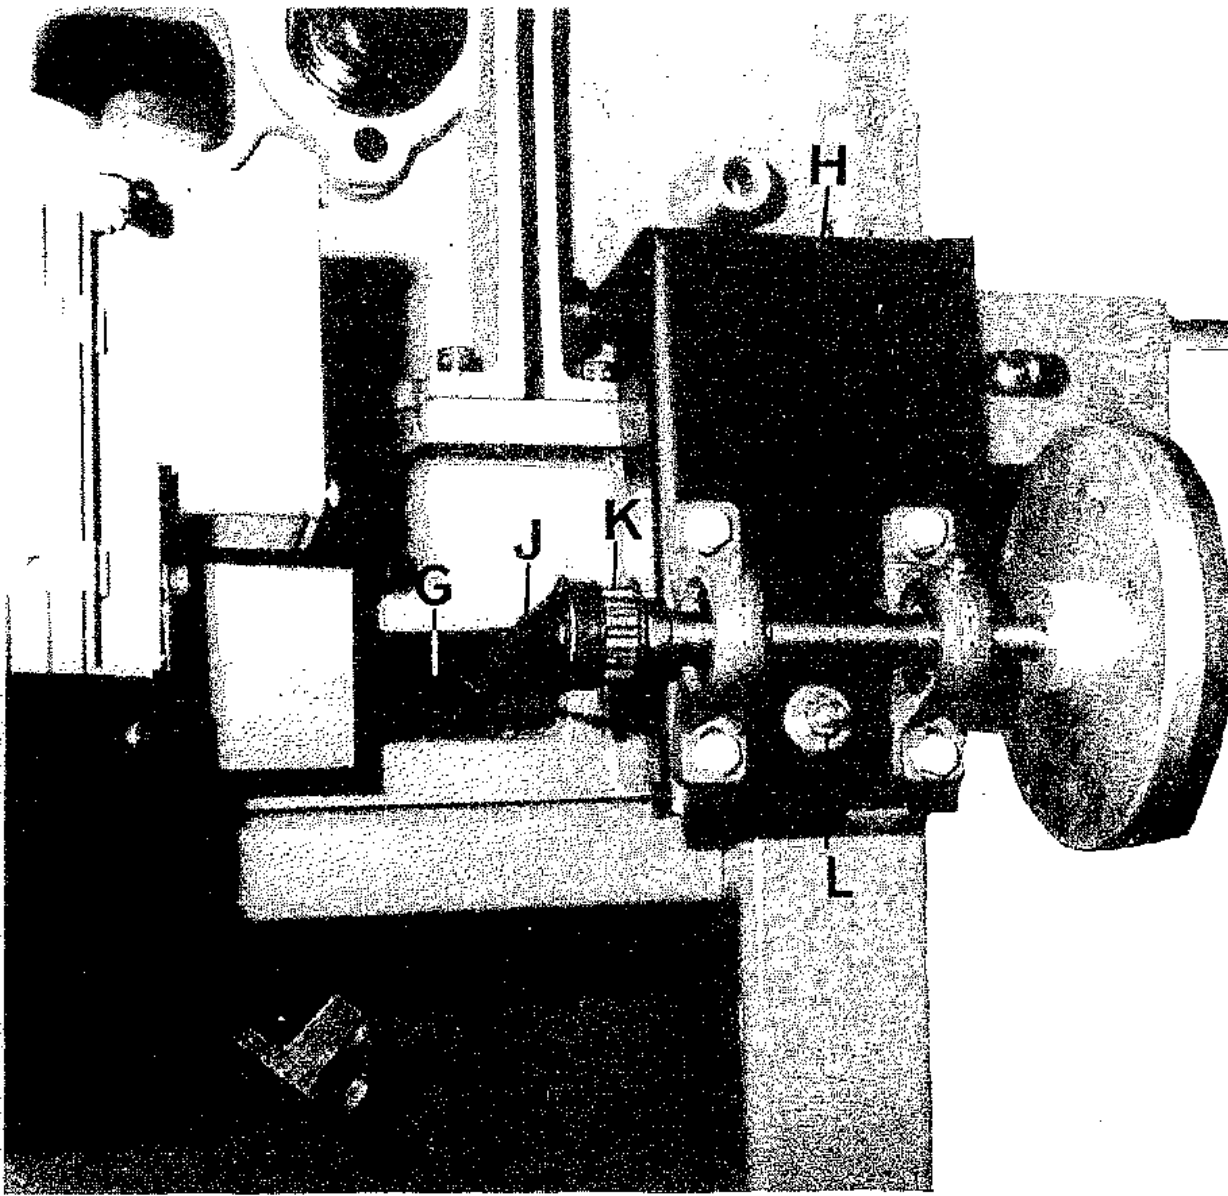

FIG.26
- d) Remove 2 - M6 button head screws from cover to give access to rise and fall spindle pulley "G" FIG.26.